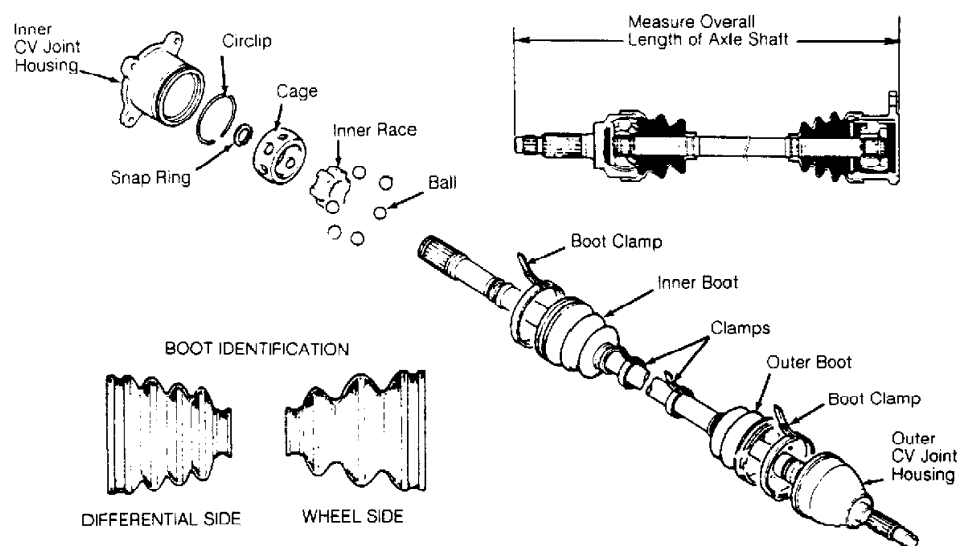

Fig. 5: Measuring Axle & Identifying Boots
1) Place axle shaft assembly in a soft-jawed vise. Keep axle shaft clean during disassembly. Index mark all related parts with paint for reassembly to original position. Remove CV joint boot bands and slide boot away from CV joint housing. See Fig. 5.
**NOTE:** Inner and outer CV joint boots differ in design and/or diameter. Ensure correct boot is installed at proper end when reassembling axle shaft. See Fig. 5. See AXLE BOOT IDENTIFICATION TABLE.
- (1) - Measurement of shaft length between pivot centers.
(2) - Measurement of overall length of axle shaft. See Fig. 5.